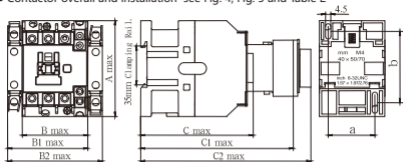
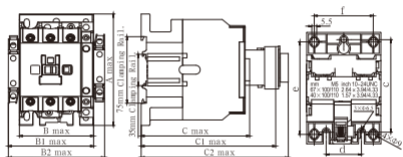

Fig. 4 CJX2s/CJX2i-09~95
Fig.5 CJX2s/CJX2i-40~95
- Contactor overall and installation see Fig. 4, Fig. 5 and Table 2